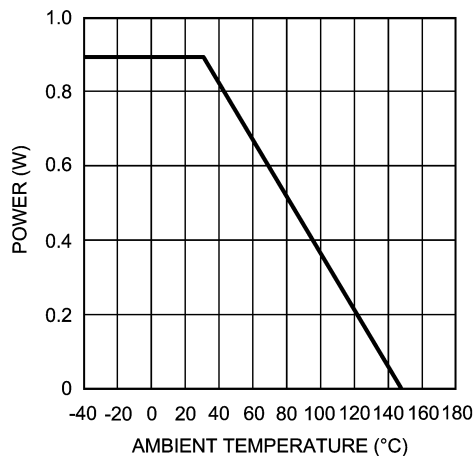

FIGURE 12. Power Derating Curve
3. Calculate the total RMS power: $P_t = P_{amp} + P_O$. The maximum power that the SOIC package can dissipate at a given temperature is illustrated in Figure 12. The power derating curve for any LMH6718 package can be derived by utilizing the following equation: